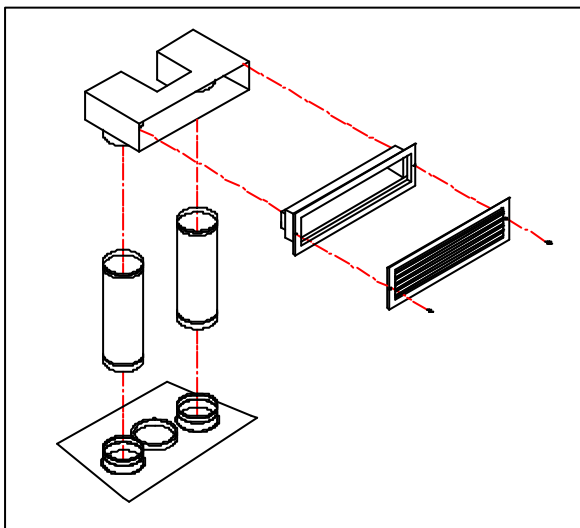

figure 14
2. Single hot air outlet including: (see Fig.14)
1. Remove the plates closing up the 8" dia. holes on top of the fireplace. Then, cut the insulation in order to obtain two 8" dia. openings. Fix the adaptors on the fireplace openings by turning clockwise (figures 14 and 15).